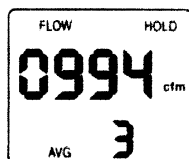

fig. 6
3. Unit will now display average air flow reading and number of points measured (fig. 6).